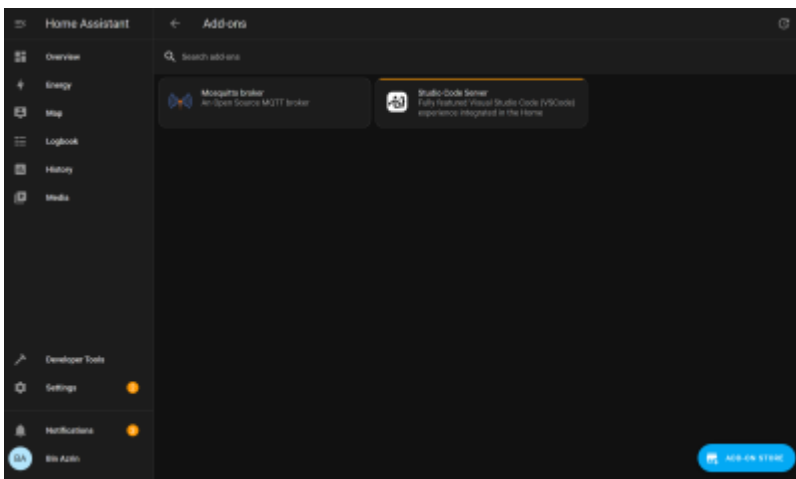

Figure 21: Downloading Mosquitto broker in Add-Ons, source: own image – Ainul Danish
- **MQTT:** When Home Assistant installed and running, proceeded with was MQTT. It acts as the medium to send data from the publisher (ESP32 cam water meter) to the subscriber (Home Assistant). This enables MQTT to send data reading of the water meter. This can be achieved by a central message broker, acting as the server that manages the communication between devices. To acquire the broker, the Mosquitto broker was downloaded in “Add-Ons” (Fig 21).